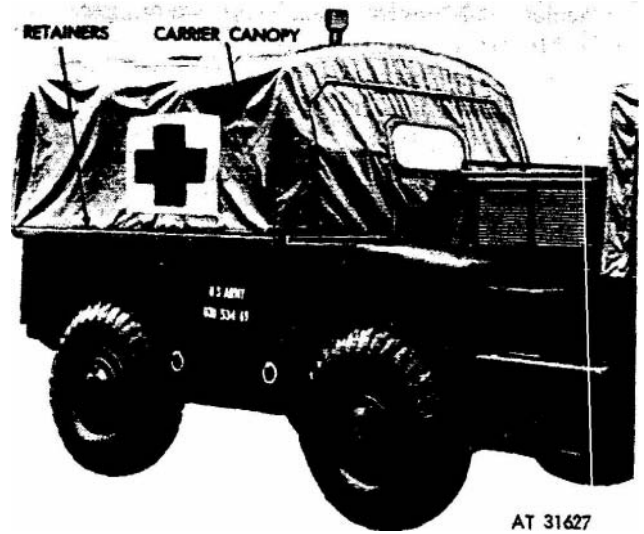

Figure 1-9. M792 ambulance carrier canopy assembly, exterior.
(1) An insulated canopy (figs 1-9, and 1-10) fits over the carrier bows and is secured to the carrier with nine metal strips or retainers in place of the tie-down cords utilized with the carrier of the M561 cargo truck.
(2) Windows are located in the fore canopy cover and aft canopy flap. Personnel access at the aft is through the aft access flap cover which fastens by means of hook and loop material. Red Cross designators are painted on each side, top and the rear cover of the canopy assembly.